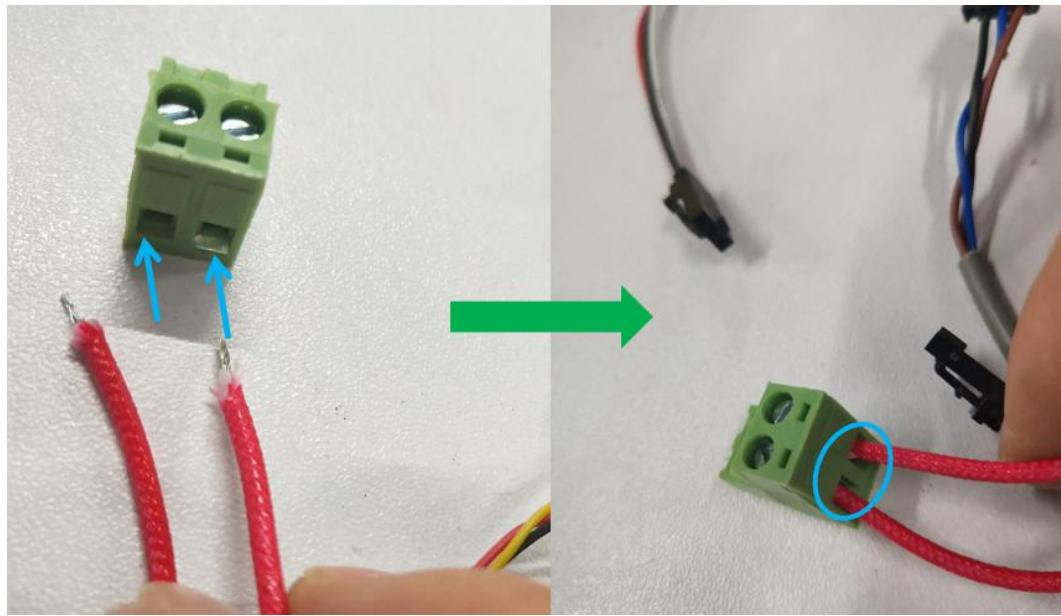

Figure 4.2.8
**Step 4-2-8:** As shown in Figure 4.2.8, the extruder heating rod cable is inserted into the wire terminal.